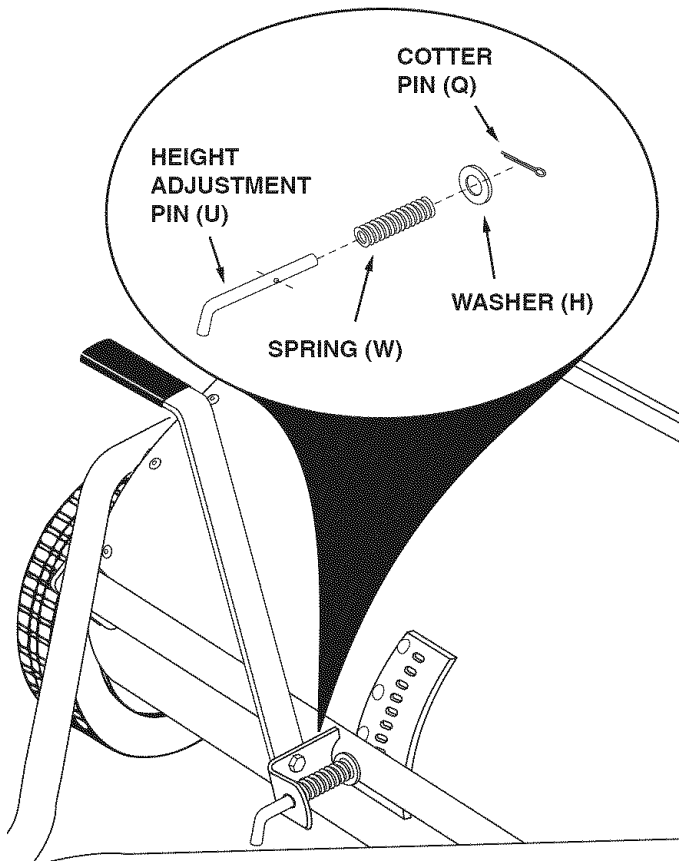

FIGURE 7
- Place the height adjustment pin (U) into the height adjust bracket. Assemble a spring (W) and washer (H) onto the height adjustment pin (U) and then secure them using a cotter pin (Q). See figure 7.